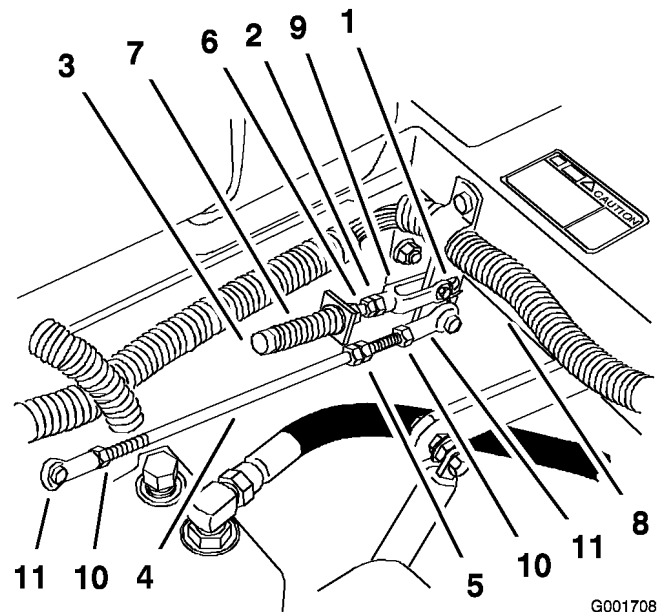

Figure 57
8. If adjustment is needed, loosen the nut and jam nut against the yoke (Figure 57).
9. Apply slight rearward pressure on the motion control lever, turn the head of the adjustment bolt in the appropriate direction until the control lever is centered in the neutral lock position (Figure 57).
10. Tighten the nut and jam nut (Figure 57).